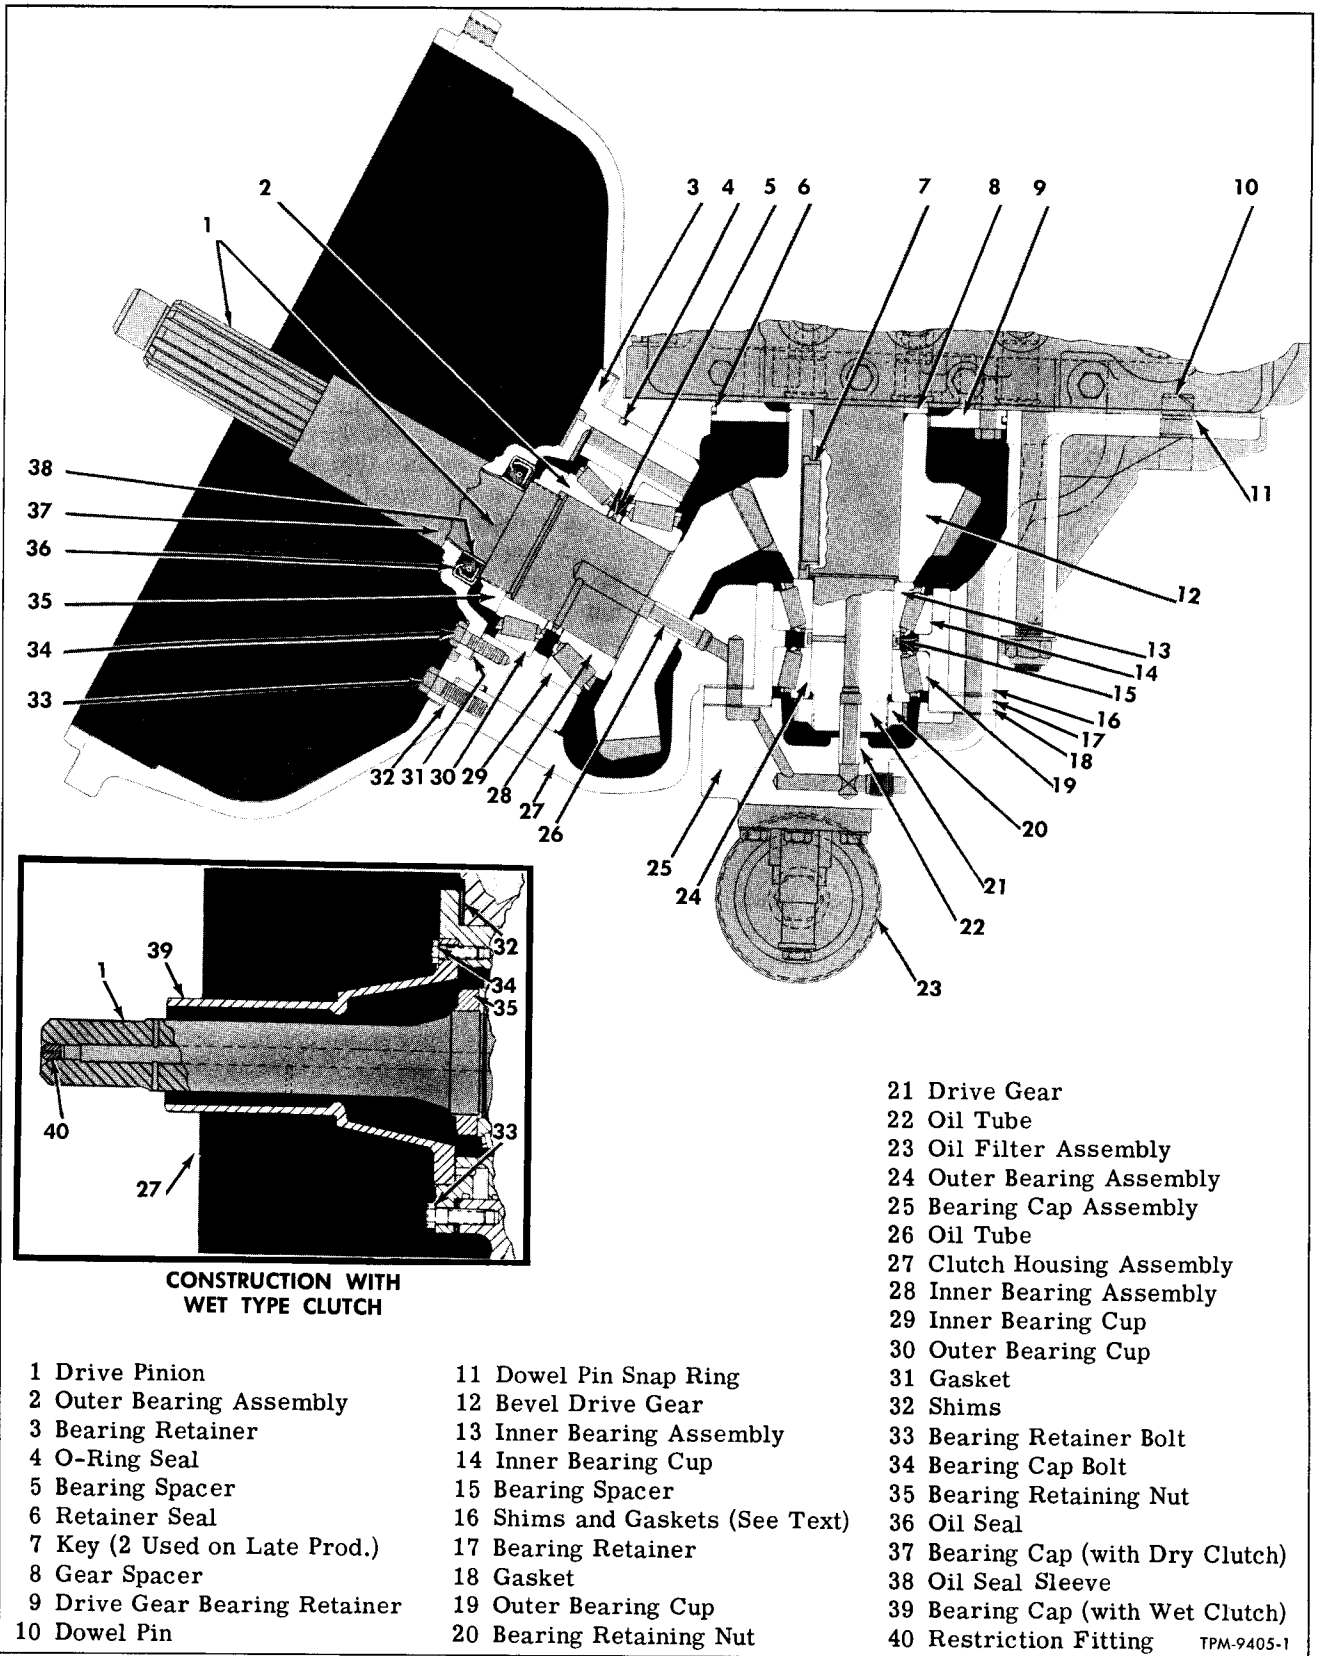
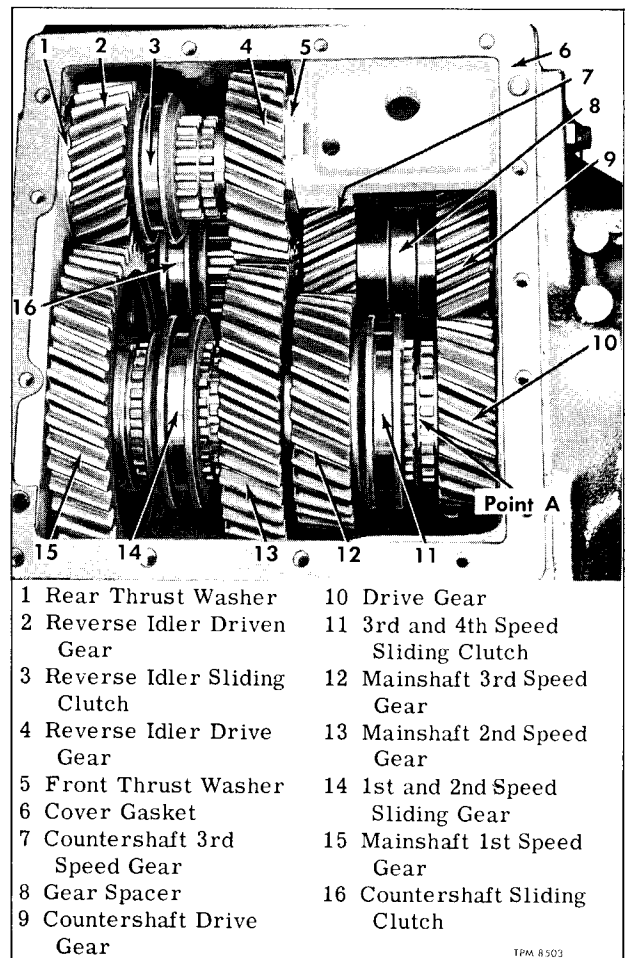

Figure 11—Cross Section At Transmission Bevel Gears
Figure 12—Transmission With Cover Removed
Key numbers in text refer to figure 11 unless otherwise indicated.
1. Remove oil filter assembly (23) from mounting pad on bearing cap assembly (25).
2. Remove stud nuts and washers attaching bearing cap (25). Remove bearing cap assembly and gasket (18).
3. Referring to figure 12 shift the sliding clutches to lock mainshaft so it cannot be turned, then remove bearing retaining nut (20) from drive gear (21).
4. Using puller screws in tapped holes in flange on bearing retainer (17) pull retainer and bearing assembly (24) out of clutch housing (27). Remove and tag shims (16) so same shims can be installed at assembly.
5. Remove stud nuts and washers which hold clutch housing in place on transmission case (two of the nuts are at transmission case flange), then with lead hammer, jar clutch housing loose and remove from studs. Remove retainer seal (6) from groove in retainer (9), and remove clutch housing gasket.
6. Remove bearing spacer (15) and any shims which may be present. Tie spacer and shims (if used) together for use at assembly. Remove inner bearing assembly (13).
7. Remove bevel drive gear (12) from drive gear (21), pry key (7) out of slot in shaft, and remove spacer (8).
NOTE: Late production vehicles have two keys (items 7, fig. 11).
2. Use puller in tapped hole in reverse idler gear shaft and pull shaft out of transmission case. Referring to figure 12 remove reverse gears, thrust washers and bearings.